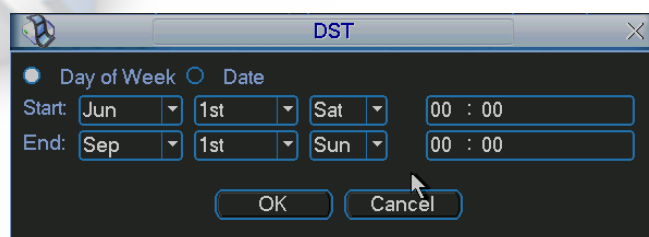
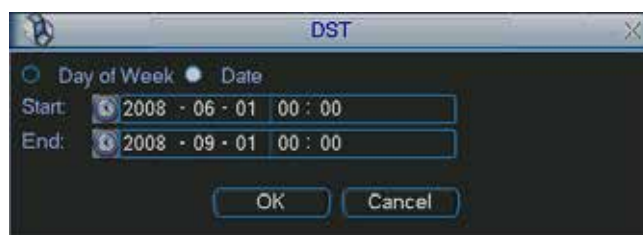

Figure 5-105
Figure 5-106
- DST: Here you can set DST time and date. Please enable DST function and then click set button. You can see an interface is shown as in Figure 5-105. Here you can set start time and end time by setting corresponding week setup. In Figure 5-105, enable date button, you can see an interface is shown as in Figure 5-106. Here you can set start time and end time by setting corresponding date setup.